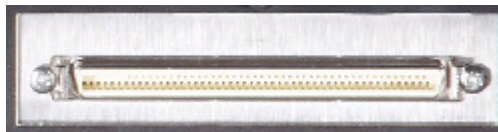

Figure A-6: ADC edge socket
10. Plug the other end of the 100-way cable into the ADC card edge socket on the rear panel of the MX Control, shown in Figure A-6, ensuring that it clicks firmly into place.